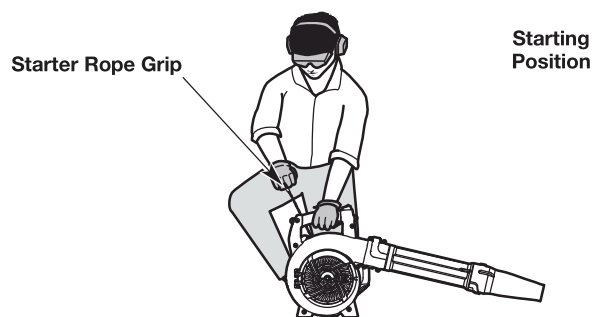

Fig. 11
5. DO NOT squeeze the throttle control. Crouch in the starting position (Fig. 11).
6. DO NOT squeeze the throttle control. Pull the starter rope with a controlled and steady motion 3 to 5 times to start the engine (Fig. 11).